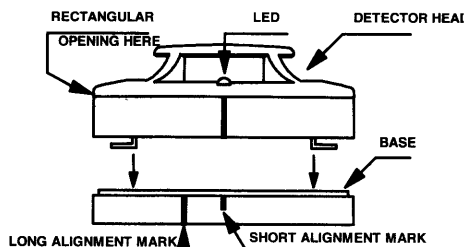

Fig. 2 Mating detector head on the base
- Align the components as shown in Figure 2.